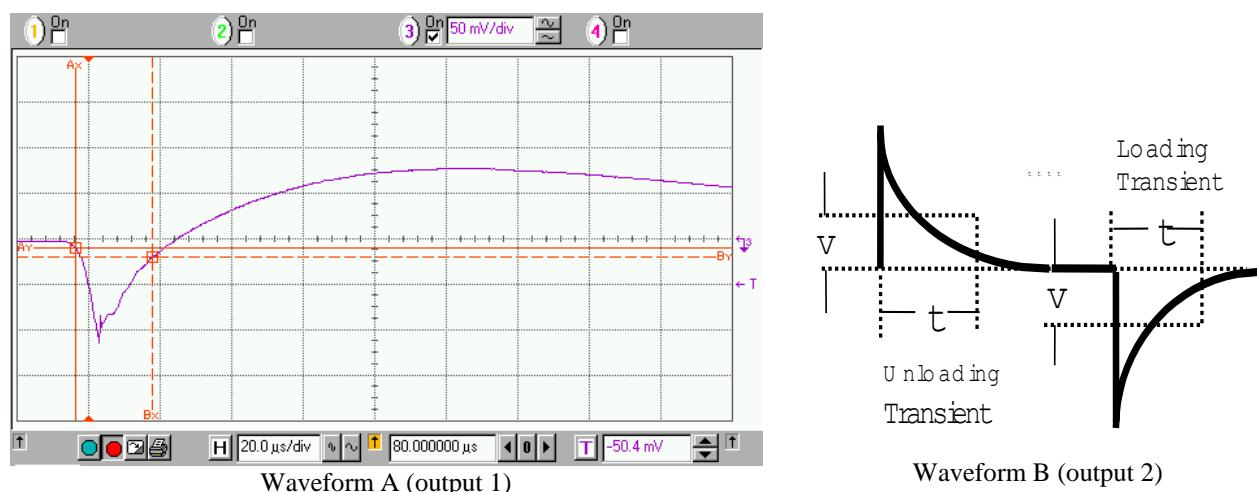

Figure 2-2. Transient Waveforms
- f. Set the oscilloscope for negative edge triggering and adjust it for a waveform similar to that in Figure 2-2.